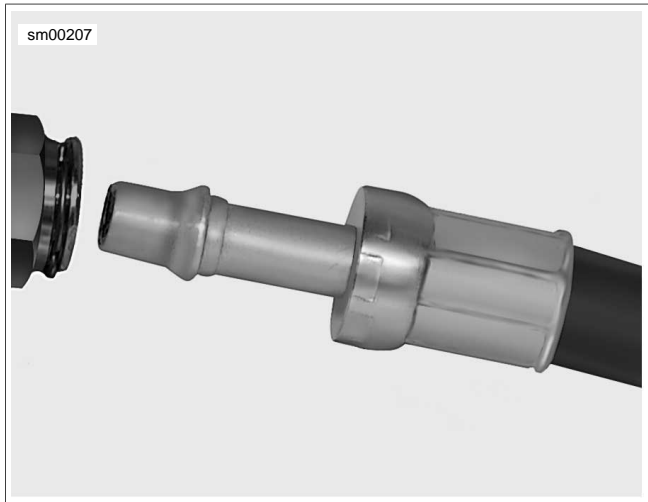

Figure 3-98. Flanged Oil Line
2. See Figure 3-98. Push the correct flanged oil line into the correct fitting in the swingarm until each one clicks in place under the spring clip.